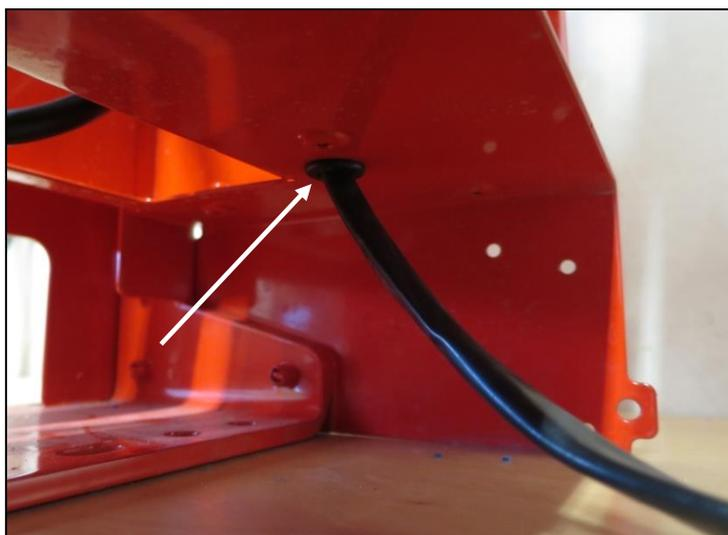

Fig.: 70
- Now pull out the cable for the spreading plate motor out of the grommet (Fig.: 70).